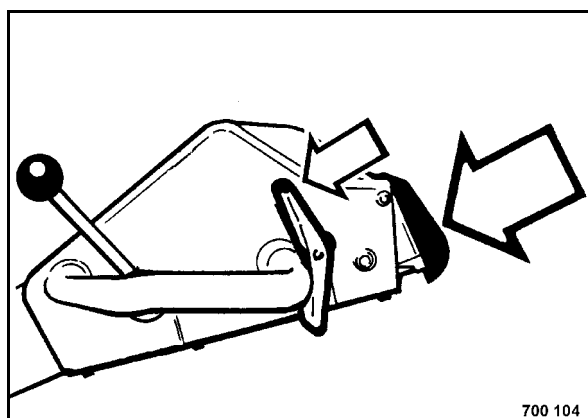

Fig. 37
- When actuating the reversing protection (Fig. 37), the travel lever (tip switch) switches over from backwards to forward travel.